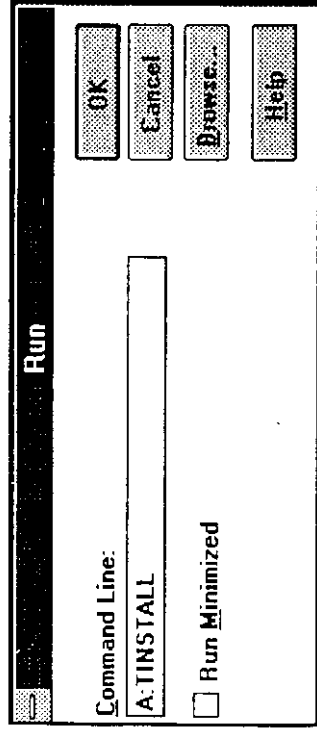

Figure 3-10.
- ❑ 5. TYPE in "TINSTALL" (if the display driver disk is in the B drive then TYPE in "TINSTALL") and then PRESS ENTER (see Figure 3-10).